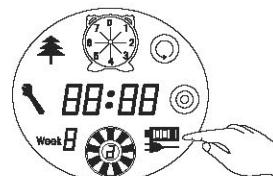

Figure 4
6. After the battery is used up, the first grid of the charging icon will flicker, when the second and then the third grid will flicker showing it is charging, stop flickering after completing the charging. (Refer to Figure 4 and Figure 5)